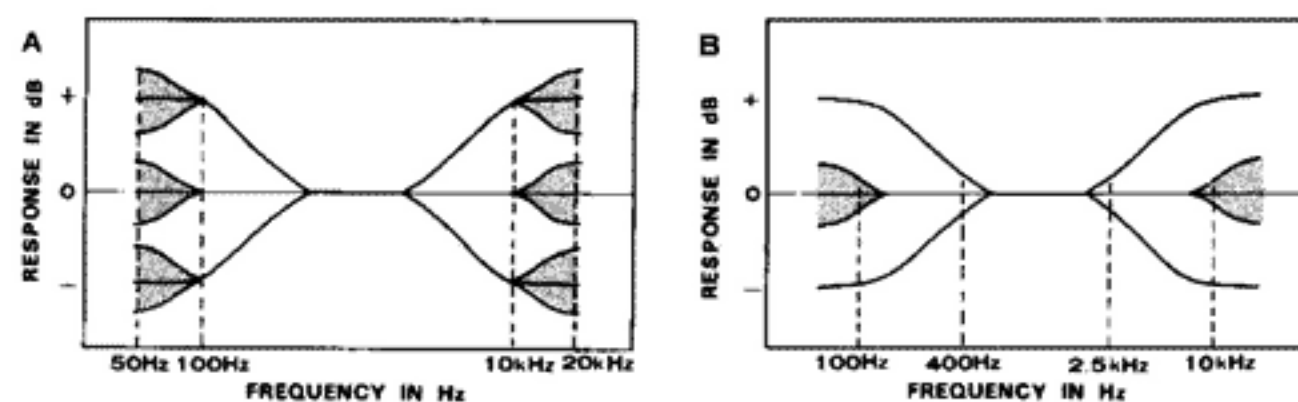

Fig. 6
Similarly, the larger TREBLE control knob adjusts treble response at 10kHz by  $\pm 10\text{dB}$ . The signal can be further adjusted at 20kHz by  $\pm 6\text{dB}$ . Fig. 6(A) shows the obtainable frequency response curves when both controls are used together. If the larger knobs are left at "0" and only the smaller knobs used, these function as tone controls with turnover frequencies at 100Hz and 10kHz, respectively. Conversely, if both small controls are left an "0" and only the large knobs used, these act as tone controls with turnover frequencies at 400Hz and 2.5kHz. Fig. 6(B) illustrates these uses.